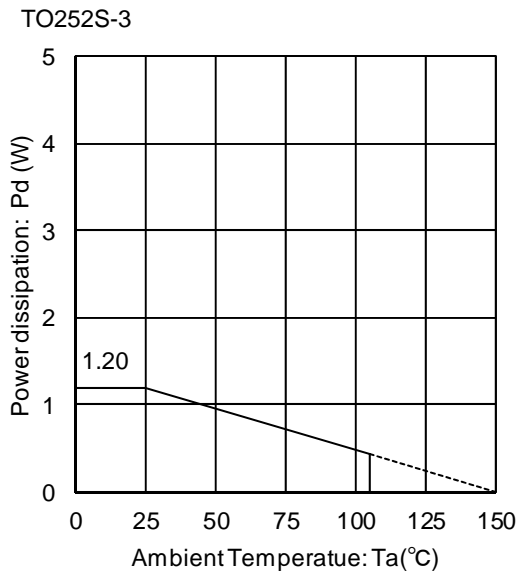
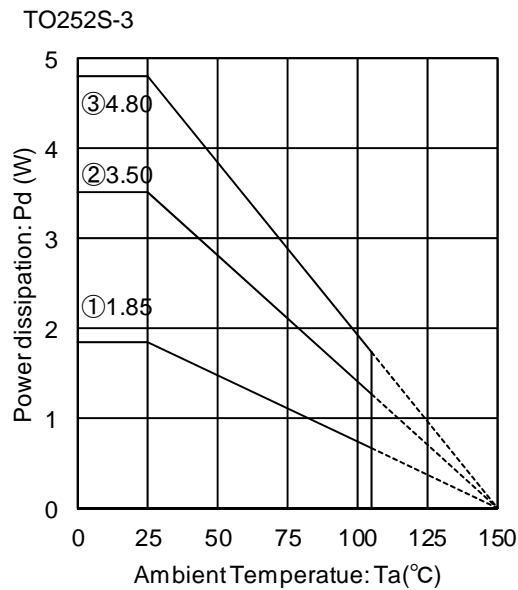

Figure 25.
Figure 26.
When used at temperatures over  $T_a=25^{\circ}\text{C}$ , please refer to the power dissipation curve shown in Figure 25 and Figure 26. The IC characteristics are closely related to the temperature at which the IC is used, so it is necessary to operate the IC at temperatures less than the maximum junction temperature  $T_{j\text{max}}$ .
Figure 25 and Figure 26 show the acceptable power dissipation curve of the TO252S-3 package. Even when the ambient temperature  $T_a$  is at normal temperature ( $25^{\circ}\text{C}$ ), the chip (junction) temperature  $T_j$  may be quite high, so please operate the IC at temperature less than the acceptable power dissipation  $P_d$ .
The calculation method for power consumption  $P_c(\text{W})$  is as follows : (Figure 26③)
$$\left( \begin{array}{l} \text{Figure 26③ : } \theta_{ja}=26.0^{\circ}\text{C/W} \rightarrow -38.4\text{mW}/^{\circ}\text{C} \\ 25^{\circ}\text{C}=4.80\text{W} \rightarrow 85^{\circ}\text{C}=2.496\text{W} \end{array} \right)$$